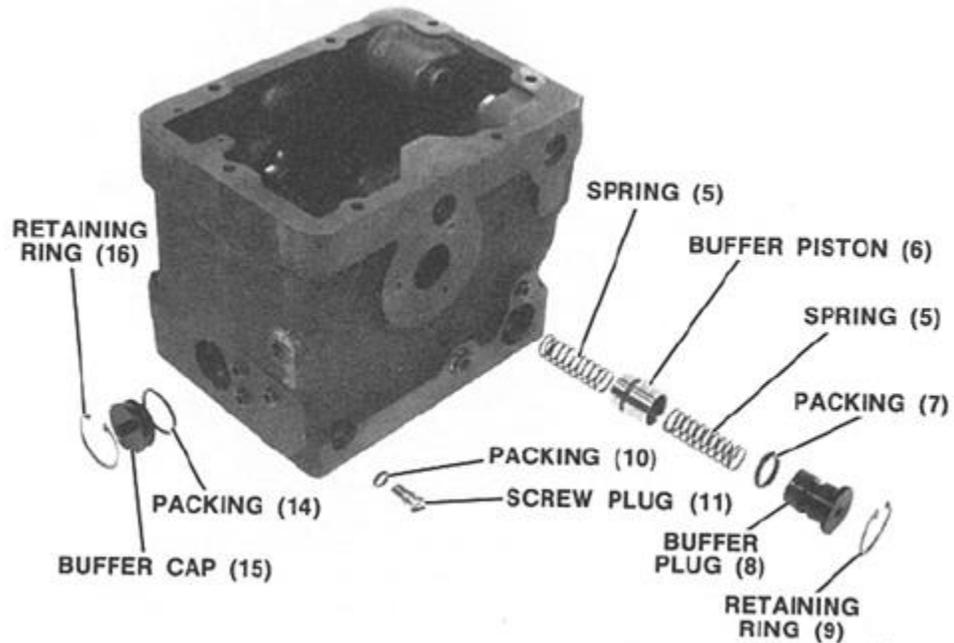

Figure 5-13. Buffer System Parts Layout
10. See Figure 5-13.
- A. Assemble packing (14), buffer cap (15), and retaining ring (16) in the case.
- B. Assemble packing (10) and screw plug (11) in case.
- C. Assemble spring (5), buffer piston (6), spring (5), packing (7), buffer plug (8), and retaining ring (9) in case.